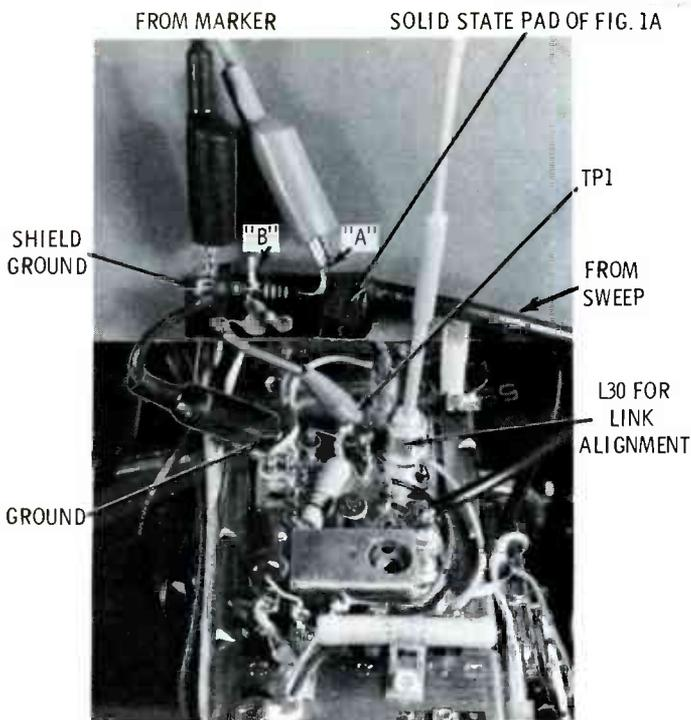

Fig. 5 Attach the sweep cable with the solid-state pad of Fig. 1A to TP1 on the tuner. Attach the marker cable to ground and point "A" on the solid-state pad.
3. Attach the sweep solid-state pad to TP1 on the tuner, then attach the marker cable to point "A" and ground on the pad (see Fig. 5).